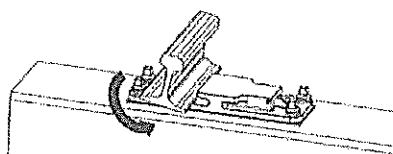

Fig. 22-Swivel stock rail into place
2. Swivel stock rail into place, Fig. 22. Ensure that the stock rail is in its proper position. The iFAST spring is normally pre-installed in its parking position.